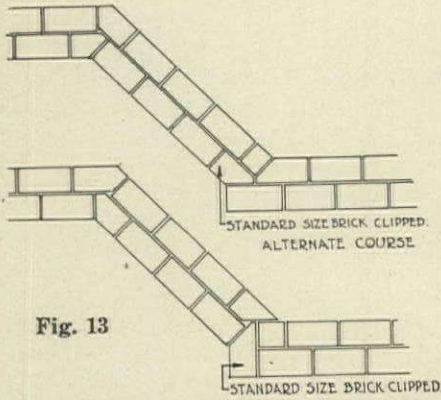

Fig. 13
**Angles and Corners**—These are rather expensive to form and most builders nowadays avoid features which tend to increase costs. The type of angle shown by Fig. 11 which involves the leaving of "pigeon holes" in the wall, should be avoided as such openings allow the lodgement of dirt which may streak down the wall after rain. Of the two, we recommend the detail shown by Fig. 12. A better detail is shown by Fig. 13. A method of forming an acute corner is shown by Fig. 14. This applies to any bond.